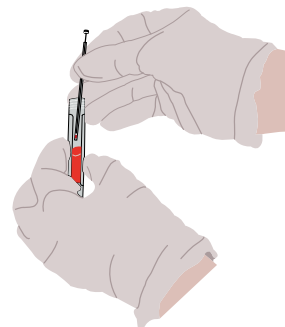

Figure 18. Sample transfer method (Capillary Tube)
13. Transfer the sample to be tested to the Labmaster LUCIA™ test cassette according to the instructions of the Labmaster LUCIA™ test Kit. See Figure 18. **Note:** A capillary tube is used here as an example.